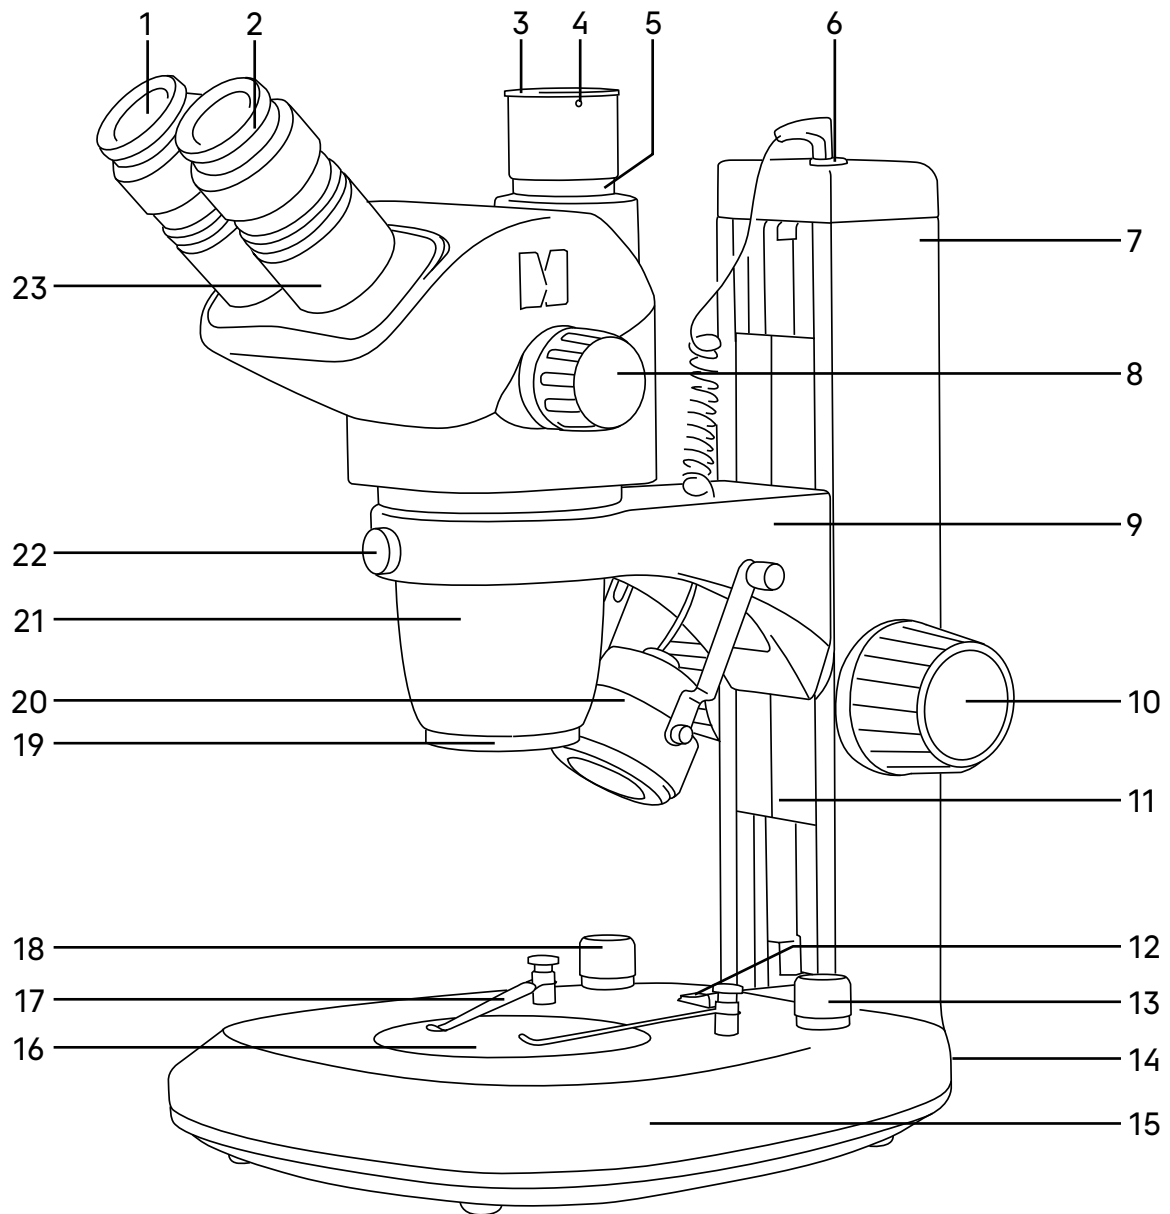

Fig. 1. MAGUS Stereo 7T Microscope
The general view of the microscope is given in Fig. 1.
The stand **7** (Fig.1) is mounted on the base **15** (Fig. 1). The stand is not removable.
Inside the stand is the focusing mechanism **11** (Fig. 1), on which the microscope head mount **9** (Fig. 1) is fixed.
On top of the stand is the reflected light illumination socket **6** (Fig. 1).
The base **15** (Fig. 1) houses a power supply unit and a transmitted light LED. The stage plate **16** (Fig. 1) provides light scattering and uniform illumination of the entire surface of the specimen. The switch **12** (Fig. 1) is used to switch the light source on and off.
The brightness of the reflected light illuminator is adjusted using the knob **18** (Fig. 1), transmitted light brightness – using the knob **13** (Fig. 1).
The base also serves as a stage. The specimen is placed on the stage plate **16** (Fig. 1). The stage plate is inserted in the base opening. The diameter of the plate is 95mm.
The specimen can be fixed on the plate by two holders **17** (Fig. 1).
The focusing mechanism **11** (Fig. 1) moves in the stand **7** (Fig. 1), bringing the specimen into focus in accordance with the specimen height and the working distance of the objective.
The microscope head mount **9** (Fig. 1) is secured on the focusing mechanism. The total vertical travel range is 106mm.
The microscope head is installed on top of the mount and secured by the fixing screw **22** (Fig. 1). The microscope head can be turned sideways in the mount and fixed in any desired position.
The eyepieces **1** (Fig. 1) are mounted in the eyepiece tubes **23** (Fig. 1) of the microscope head. The tubes are adjusted to the observer's interpupillary distance, ranging from 54 to 75 mm.
A 1x C-mount adapter is installed in the trinocular tube **5** (Fig. 1) to fix the camera (video eyepiece). The camera is used to transmit the image to a computer screen or monitor/TV.
The zoom objective lens **21** (Fig. 1) has 0.67–4.5x magnification and allows for smooth change of magnification up to 6.7 times with no loss of quality and maintaining a large working distance of 105mm.
The microscope magnification is changed by rotating the knob **8** (Fig. 1).
The 10x eyepieces have a linear field of view of 22mm (WF 10x/22). Each eyepiece has a diopter adjustment **2** (Fig. 1). The eyepiece tubes have a secure eyepiece mount design that prevents the eyepieces from accidentally falling out when the microscope is moved. The eyepieces are fixed in the tubes by screws.
The oblique illuminator 20 (Fig. 1) is fixed in the microscope head mount. The illuminator cord is plugged in the socket 6 (Fig. 1).
- Insert the stage plate 16 (Fig. 1). To observe transparent objects, use a glass plate. To observe opaque objects, use a black-and-white plate. To increase contrast, the white side of the plate is used for dark-colored objects, while the black side is for light-colored objects.
- Install the specimen holders 17 (Fig. 1).
- Install the microscope head in the ring of the mount 9 (Fig. 1). Secure the microscope head by the fixing screw 22 (Fig. 1). Do not overtighten the screw.
- Set the brightness adjustment knobs 13 and 18 (Fig. 1) to the minimum position.
Set the minimum magnification of the 0.67x objective by rotating the zoom knob **8** (Fig. 1). The zoom knobs are on both sides of the microscope head.
Use the eyepiece diopter adjustment to compensate for the observer's ametropia. Start by setting the diopter adjustment on both eyepieces to the zero. To do this, rotate the ring **2** (Fig. 1) to adjust "0" to the indicator "." on the eyepiece body.
While looking through the right eyepiece (with your left eye closed), bring the specimen into focus. While looking through the left eyepiece (with your right eye closed) and not touching the focusing knobs, bring the specimen into sharp focus in the left eyepiece by rotating the diopter adjustment ring **2** (Fig. 1).
Screw the required objective lens 19 (Fig. 1) into the thread of the objective part 21 (Fig. 1). The 0.5x reducing objective lens increases the working distance and field of view.